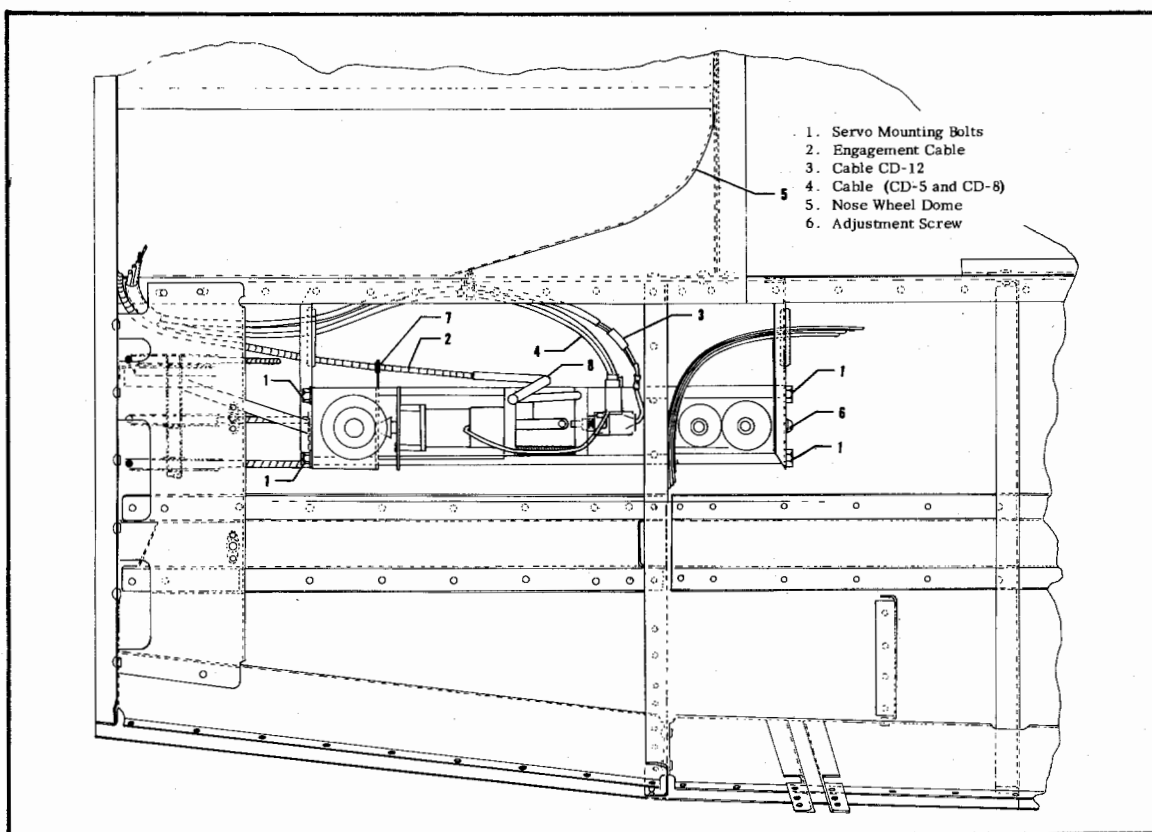

Figure 2-7. Pitch Servo Installation
1. Remove the inspection plate and floorboard plate located to the left of the wheel well dome. (Refer to figure 2-7)
2. Disconnect the engage-disengage control cable (2) from the servo unit.
5. Remove the four mounting bolts (See 1, figure 2-7) from the Servo and remove the assembly.
1. Disconnect the engage-disengage cable at points 7 and 8 in figure 2-7.
The disengaged position should be adjusted first, and is accomplished through the 8-32 filister head screw in the center of the end plate (See 6, figure 2-7) Disengaged Position.